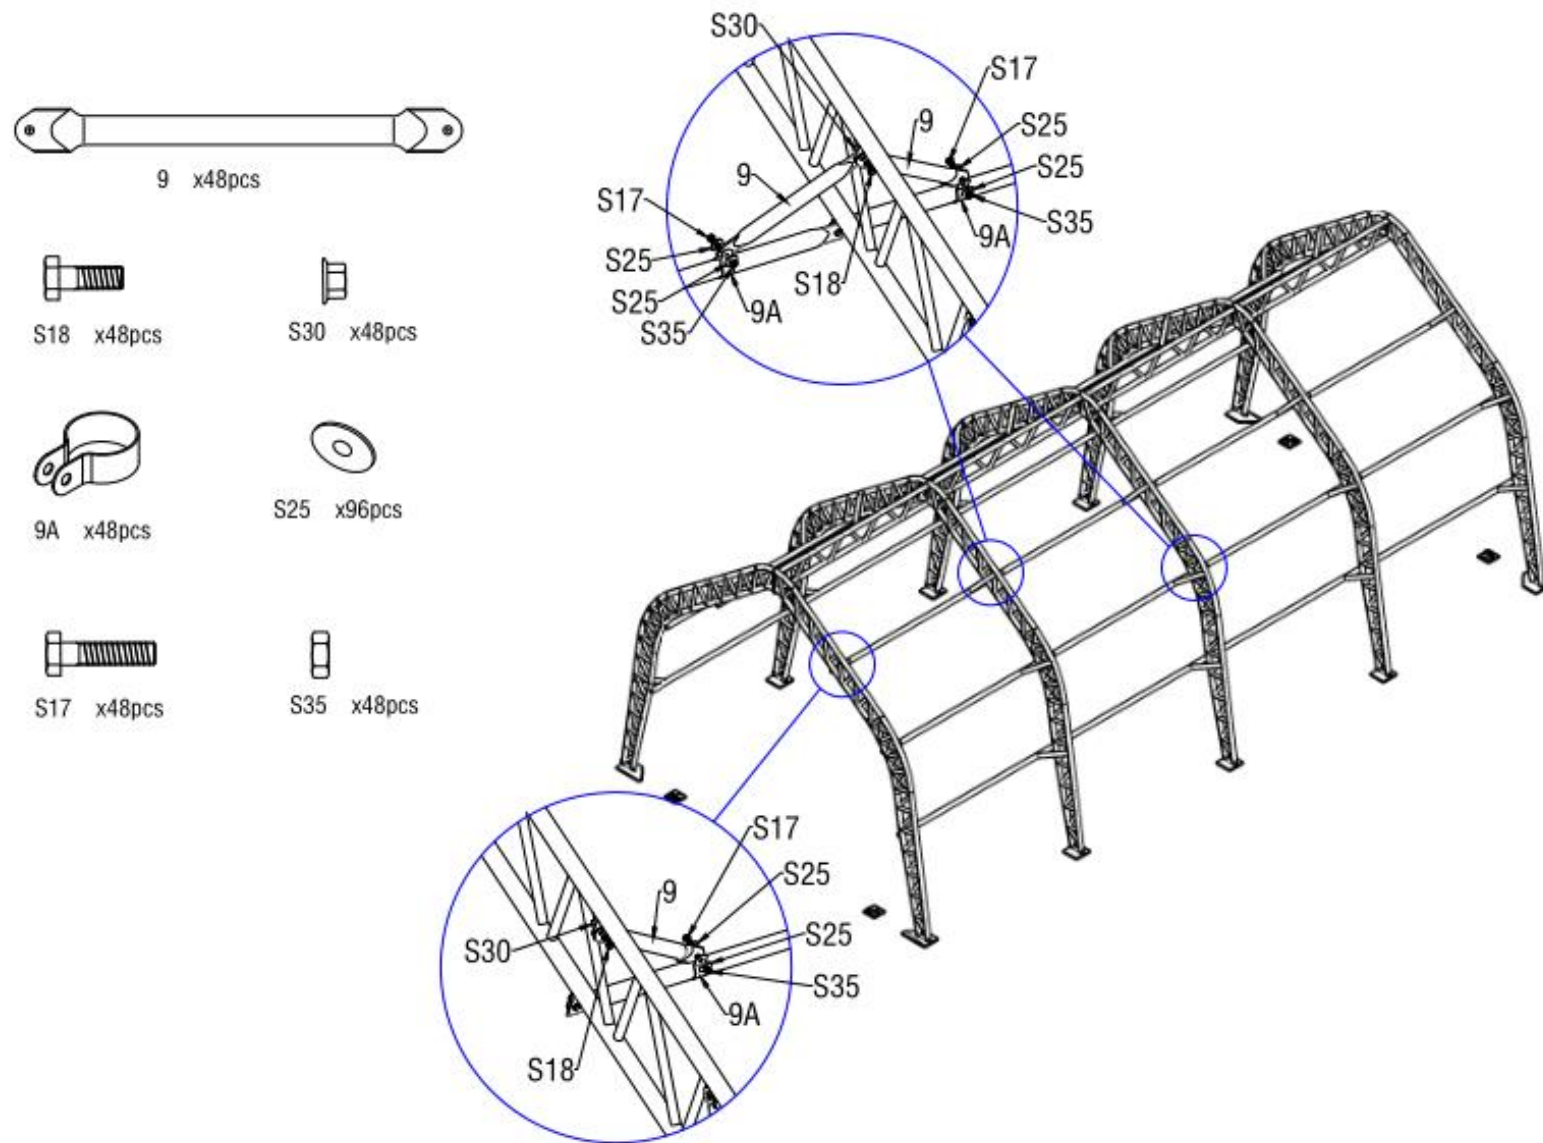

Figure 9
5. Fix clips(No.9A) on purlins(No.8) and install the Diagonal Support Tube For purlin (No.9) on clips as figure 9 shows. Please connect the Diagonal Support Tube For purlin (No.9) between arch frame and purlin (No.8) by using Screw M10x30(No.S18) and Screw M10x50(No.S17) with plain washer M10(No.25).